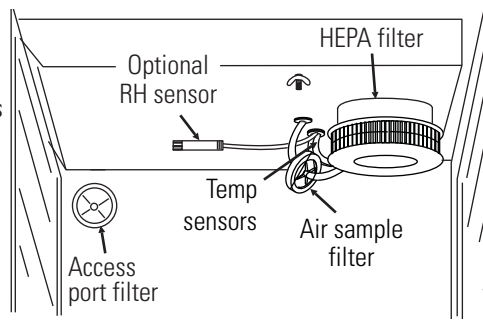

Figure 6-1. Sensor and Filter Locations
2. Remove the shelves, access port filter and side duct sheets. Remove the temperature sensors and the air sample filter tubing from the back of the blower scroll. If unit is equipped with the optional RH sensor, unfasten it from the clip on the top duct (Figure 6-1).